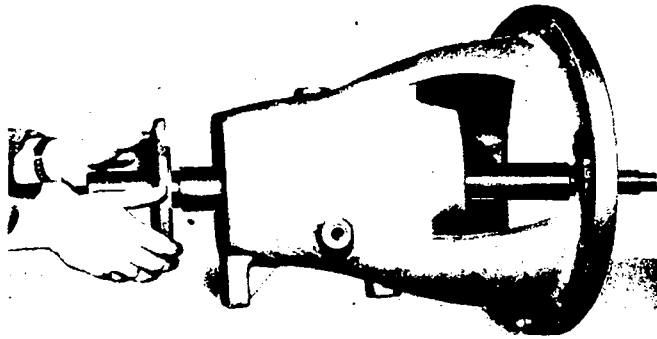

Fig. 27: Mounting of bearing cover
Mount the bearing covers (360) with gasket (400.4) on both sides of the bearing bracket (330) - fig. 27.